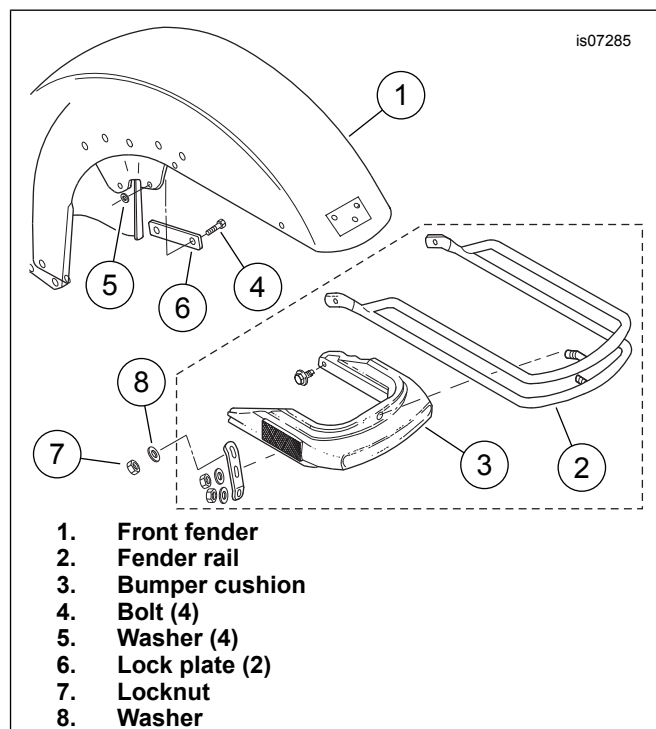
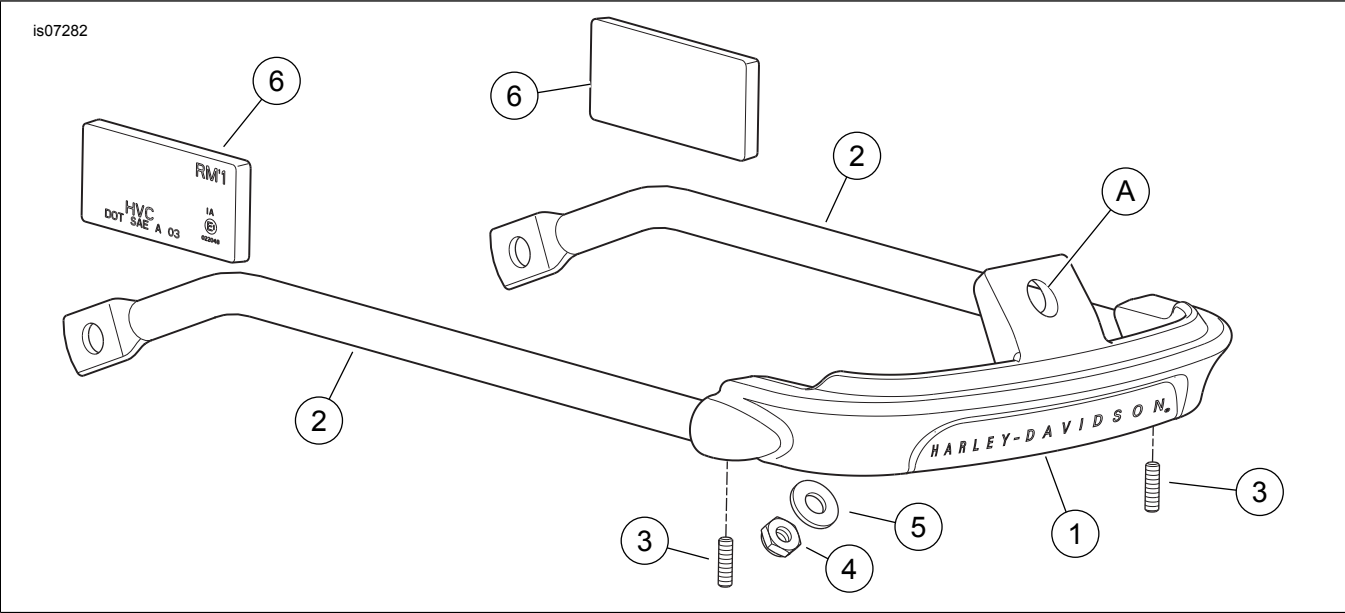

Figure 1. Rail Removal (FLT, FLHT)
Figure 2. Service Parts, Air Wing Front Fender Rail Kit
See Figure 2 and Table 1.
See Figure 1. On **FLT and FLHT models**, the original equipment (OE) fender rail (2) and bumper cushion (3) assembly must be removed. Retain the fasteners (4, 5) to mount the fender rail from **this** kit.
1. Reach under the front edge of the fender (1) and remove the locknut (7) and washer (8) holding the fender rail (2) and bumper cushion (3) assembly.
2. **ALL Models:** Bend the forward corner of the lock plate (6) away from the flat on the front bolt head (4) on each side of the fender.
3. Loosen and remove the two front hex head bolts (4) that attach the fender (and fender rail on FLT and FLHT models) to the fender mount on the forks. When the bolts are removed, the washers (5) will fall out.
5. See Figure 2. Place the **new** fender rail assembly into position, aligning the slotted hole (A) in the front tip (1) with the weld stud in the front of the fender.